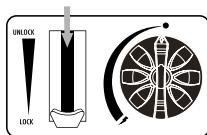

fig. 3
3. Press the cartridge lever (6) down (fig.3) and close the cartridge cover.
4. If you hear a “hissing” noise, the cartridge has not been correctly fitted. Do not attempt to ignite the appliance but move lever (6) to the “Unlock” position and repeat step (1-4).